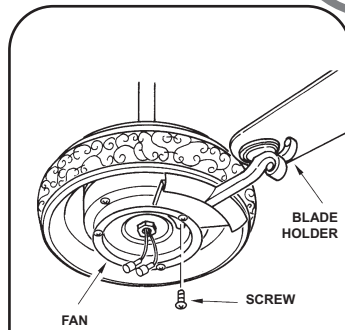

Fig.21
Step 3. Align holes from blade holder to motor and secure with 2 screws provided. (Fig 21).